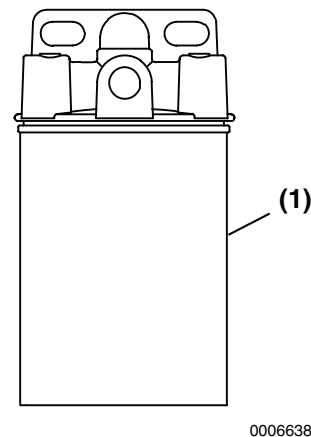

Figure 4-5
3. Unscrew and remove filter cartridge (Figure 4-5, (1)).